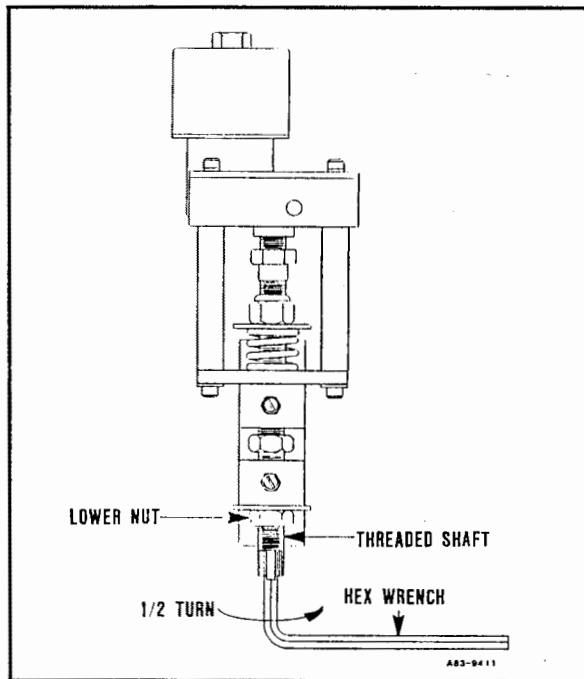

Figure 9.2 I
15. While holding lower nut still, turn threaded shaft 1/2 of a turn as shown in Figure 9.2 I. Use the strip of tape to determine 1/2 of a turn (the tape will be facing the rear of the press after 1/2 of a turn). See Figure 9.2 I.